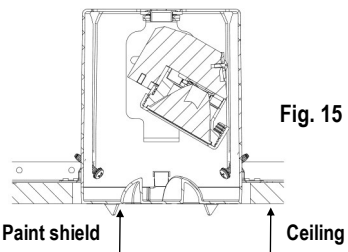

Fig. 15
5. Insert paint shield into fixture and adjust fixture until level with finished ceiling (Fig. 15). Paint shield has indicators where to level. Tighten screws with screw driver thru the openings (Fig. 16).